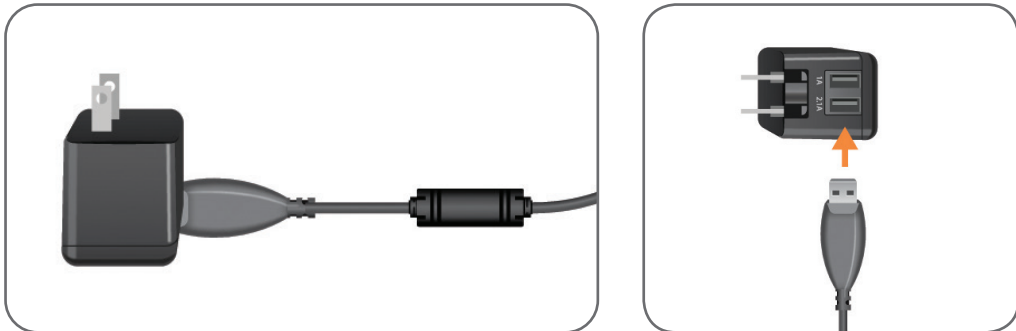

Figure 6-1: Inserting USB Charging Cable into AC Adapter
2. Insert the USB end on the charging cable into the USB port on the AC adapter. See Figure 6-1.